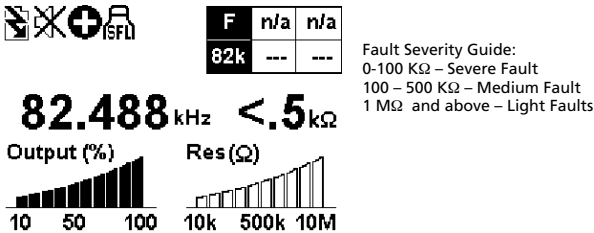

Figure 3-2: Transmitter display in SFL mode
6. Push T-5000 transmitter SFL key. Check measured fault resistance on transmitter display. See Figure 3-2